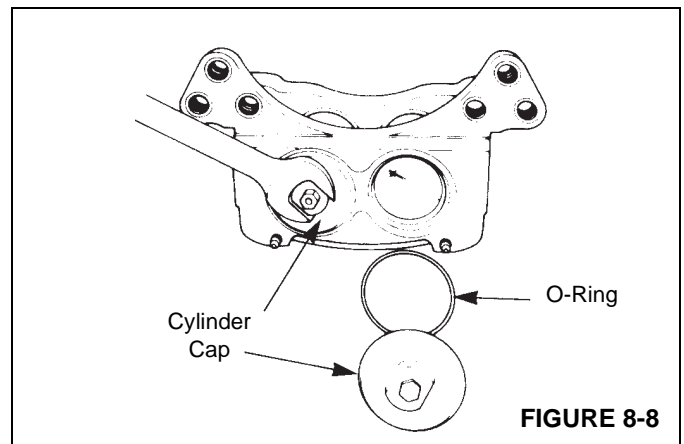

FIGURE 8-8
7. Remove the cylinder caps from the housing using an open end wrench. Remove and discard the O-rings (Figure 8-8).